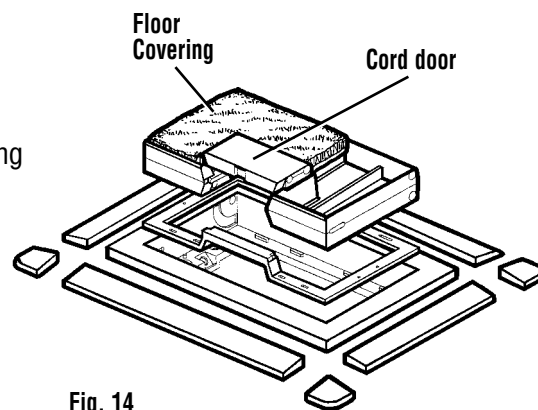

Fig. 14
- b. **Tile:** Carpet flange may be removed using a sawsall, jig saw or saber saw to cut along the score lines. Avoid using pliers or similar tools to break away the flange. (Fig. 14) If option of removing carpet flange is selected, set Cover so top surface of flange is at finished tile height. Work tile to Cover flange.
- d. **Tile or Carpet:** Cover may be inverted and a section of carpet or tile installed in the Cover to make the Cover less noticeable. Use template on page 4, Fig. 17, to size section of floor covering to be installed in inverted cover. If inverted cover option is chosen, small Cord Door must be removed and re-installed on the opposite side of the cover. (Fig. 14)